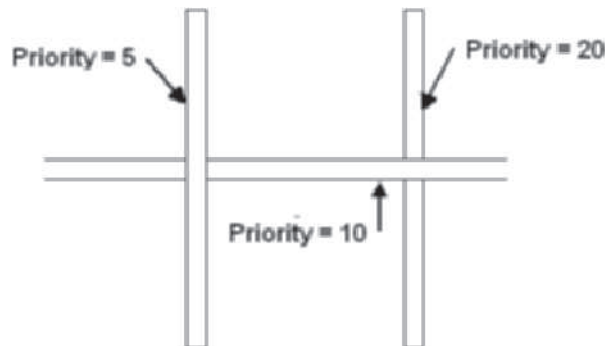

FIGURE 3.14 Walls with low priority numbers overriding walls with high priority numbers
18. The Priority field allows you to assign a priority number to control how the wall component will clean up with other walls. Wall components with the same priority number will merge when walls intersect. Components with low priority numbers will override the display of wall components with higher priority numbers as shown in Figure 3.14.
The walls shown in Figure 3.14 were drawn with priorities of 5, 10, and 20. The horizontal wall and the left wall have low component priority; therefore, they override the display of the wall component with a priority of 20. Assigning priority numbers to wall components would be useful for controlling the display of components of fire-rated walls. Fire-rated walls are displayed without penetrations from other non-rated walls. Therefore, in the example shown in Figure 3.14, the right vertical wall could correctly represent a non-rated wall that intersects the horizontal fire-rated wall.